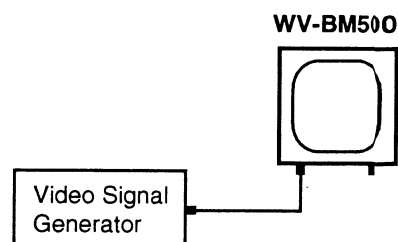

Fig. 3-2
- The Fig. 3-2 shows the connecting diagram for adjustment procedure of the WV-BM500 using the Video Signal Generator.